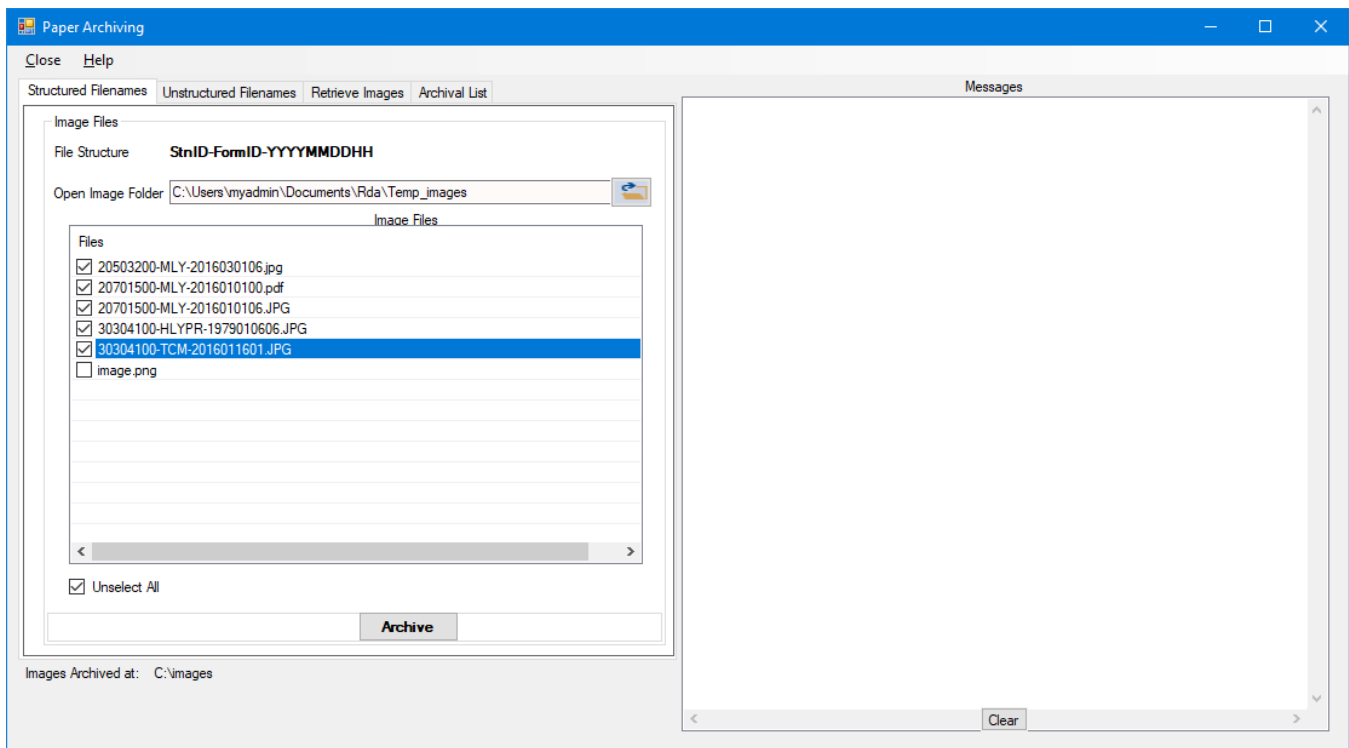

Figure 98: Archiving images with standard filename structure
- From the **Welcome** dialog, click on the icon **Paper Archive** to obtain the dialog shown in **Figure 98**,